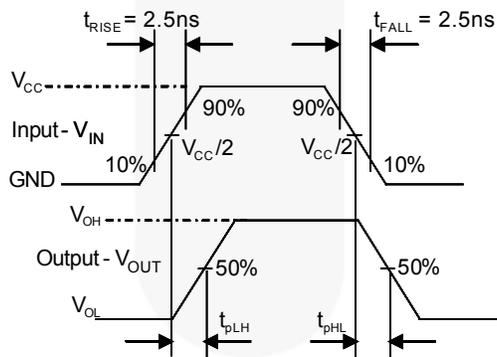

Figure 9. Switch Propagation Delay Waveforms
| $t_{PD}$  | Propagation Delay (5) | $R_L = 50\Omega$ , $C_L = 5pF$Figure 9                                       | 3.6          |  | 0.25 |      | ns   |